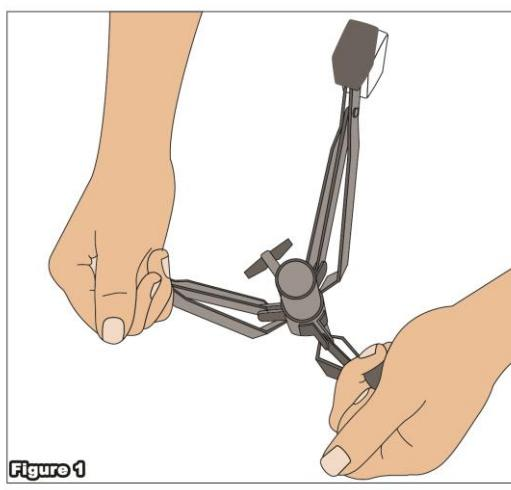

Figure 1
**Step 1** – Take the main stand with the legs, flip it, loosen the knob and spread the legs using two hands. Use the locking knob and turn to tighten in place. (See **Figure 1**). Flip the stand and make sure that the legs are flat on the floor.